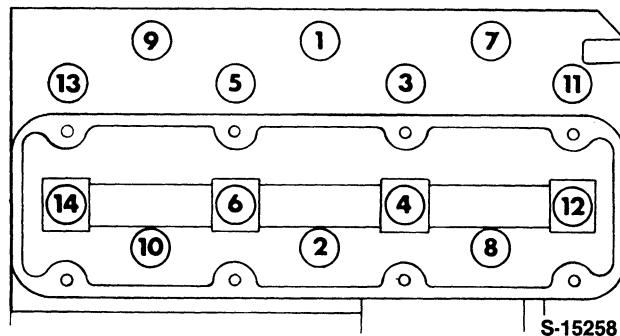

Figure 20
- Be sure washers are installed under the heads of the cylinder head retaining bolts. Tighten the cylinder head bolts in the sequence shown in Figure 20 and progressively in three steps as follows.